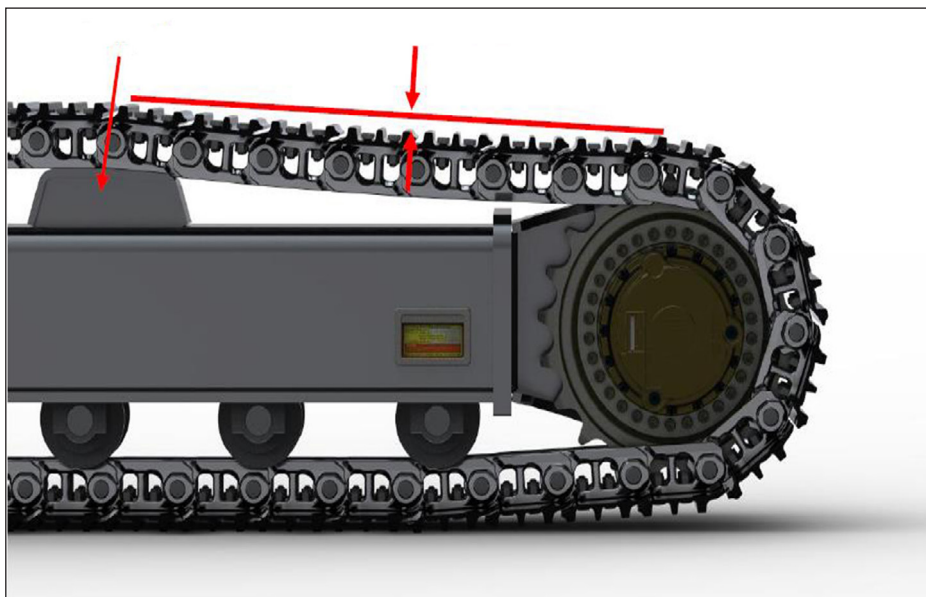

Figure 6.4 - Measuring Track Tension
6. Measure the maximum amount of track sag from the high point of the track to the bottom of the 'straight edge', Ref: Figure 6.4.